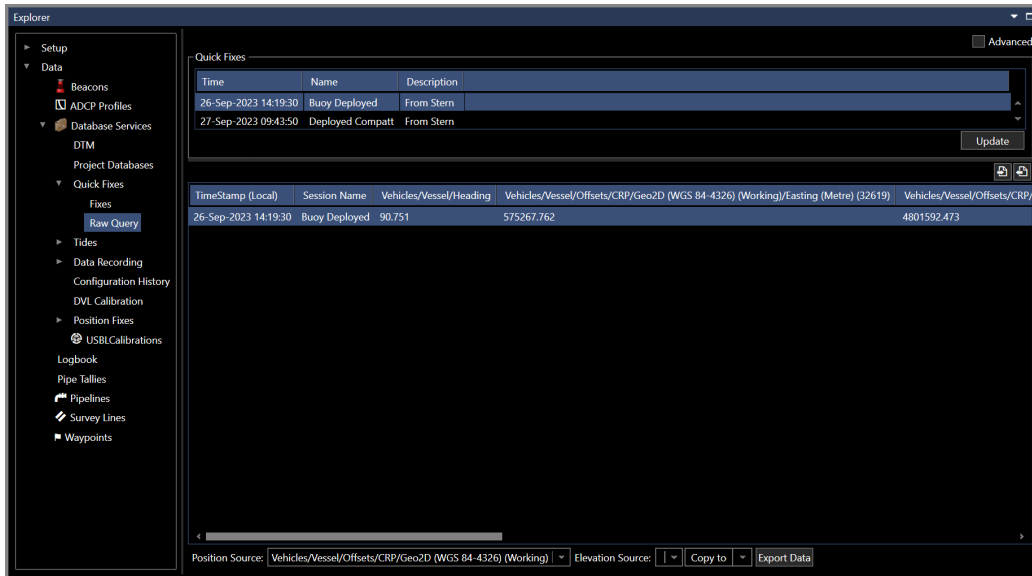

FIGURE 14-50 QUICK FIXES - RAW QUERY – FIX CAPTURED DATA
- a. By selecting an individual fix or a group of fixes in the top panel **Quick Fixes** and clicking the **Update** button, a grid listing of captured data is displayed in the bottom panel. See FIGURE 14-50